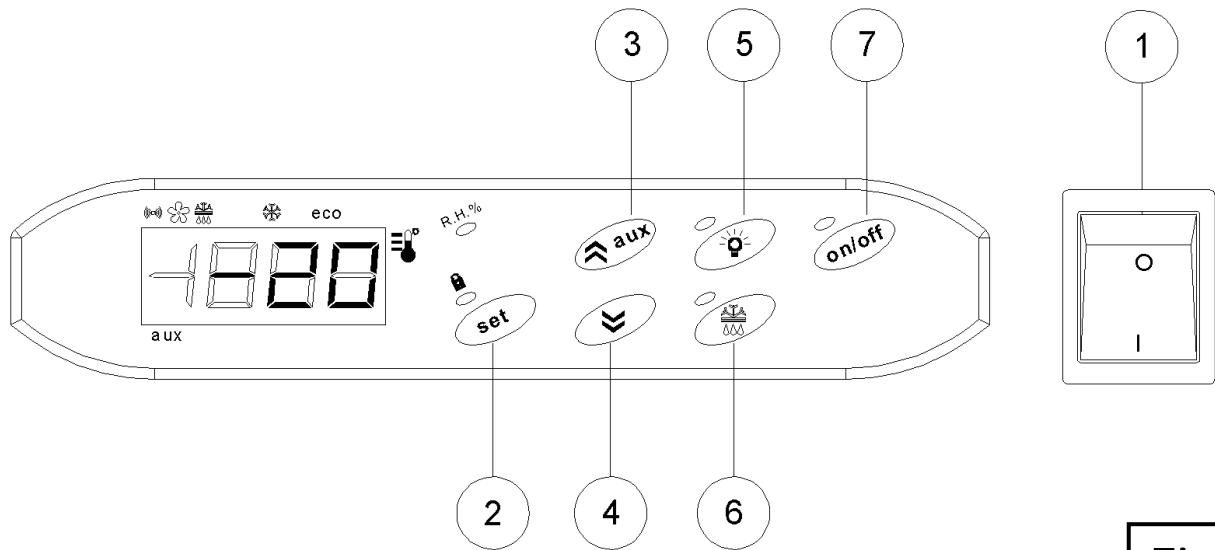

Fig. 4
Energize the system by acting on the compressor switch ① shown in FIG. 4.
The user in carrying out the functions of monitoring and changing functioning parameters must act exclusively on the external instrumentation of the control panel represented in Fig. 4.